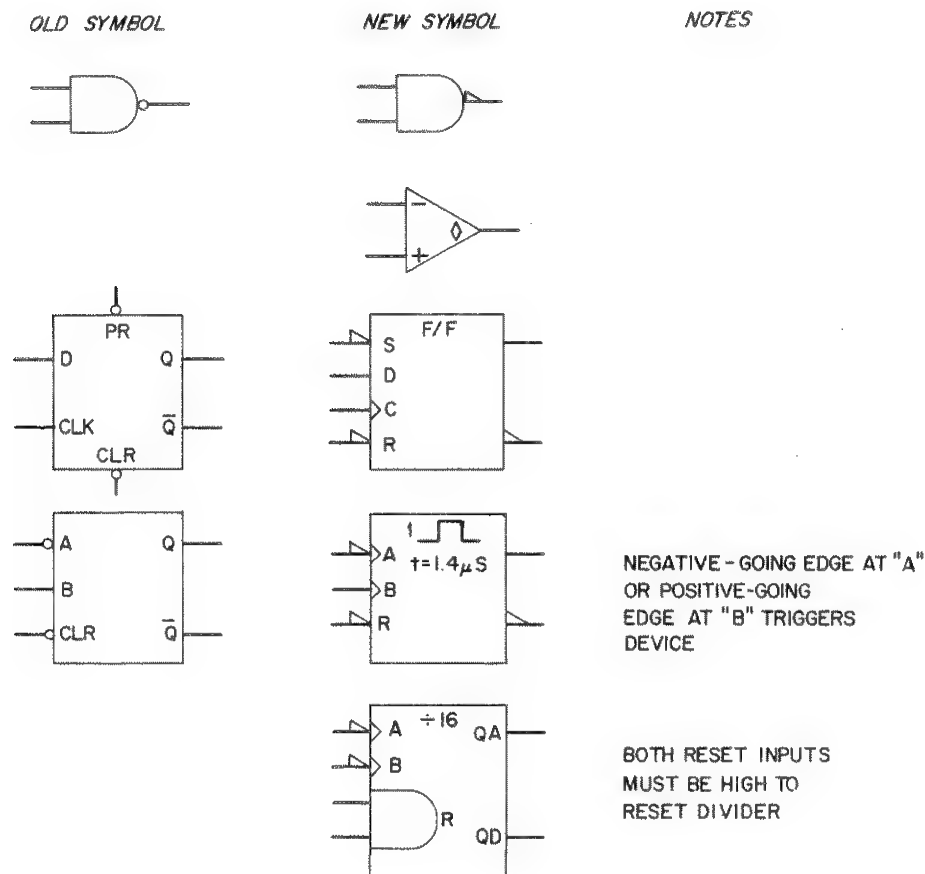

Figure 7-7. Logic Symbols and Definitions
- e. Logic symbols diagram (Figure 7-7), illustrating the logic symbols used on the schematic.